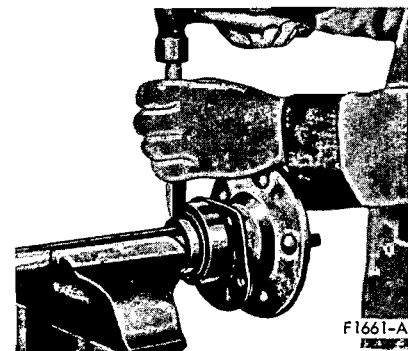

FIG. 2 Removing Rear Wheel Bearing Retainer Ring
3. Remove the grease cap from the hub. Remove the cotter pin, nut lock, adjusting nut, and flat washer from the spindle; then, remove the outer bearing cone and roller assembly, (Fig. 2, Part 11-02, Section 1).
1. On all models except Ford, Mercury or Meteor, if the rear wheel bearing is to be replaced, loosen the inner retainer ring by nicking it deeply with a cold chisel in several places (Fig. 2). It will then slide off easily.